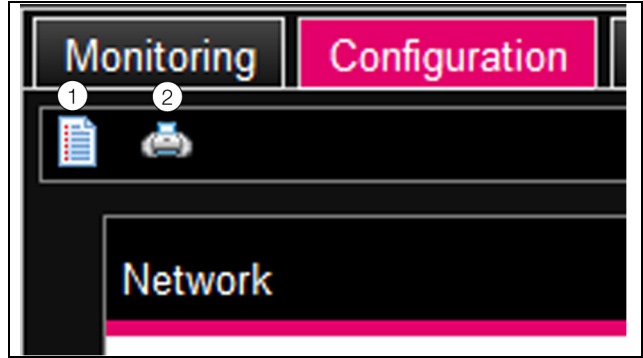

Fig. 53: Summary of current settings
If the complete system "Processing Unit" has been selected, the operator may display (left button fig. 53,
item 1) or print (right button fig. 53, item 2) a summary of the current settings using the two buttons in the top section of the **Configuration** index tab.